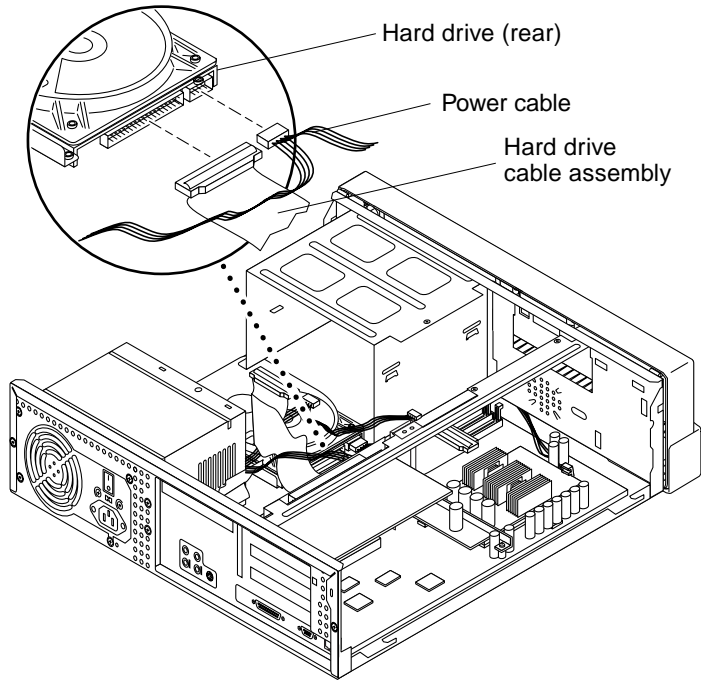
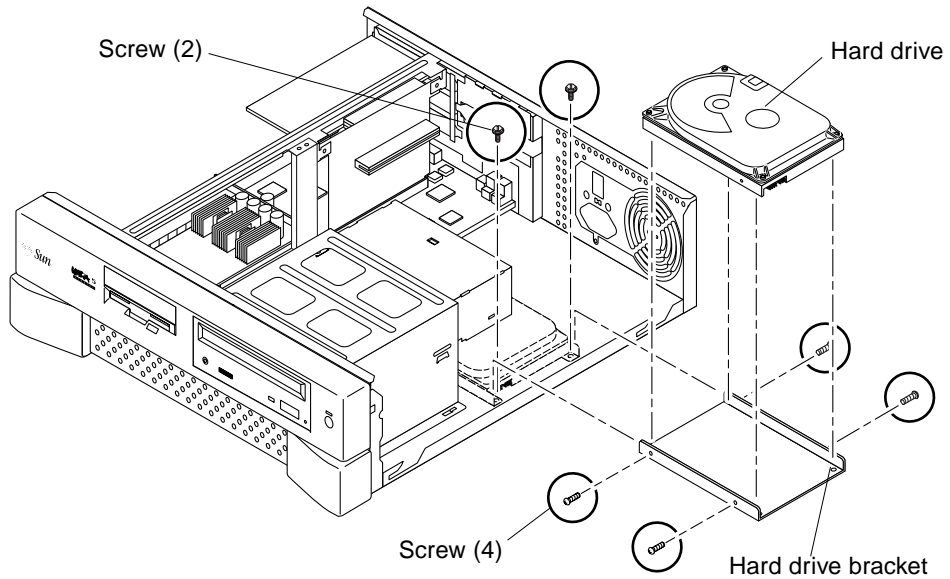

FIGURE 7-3 Removing and Replacing a Primary Hard Drive (Part 1)
FIGURE 7-4 Removing and Replacing a Primary Hard Drive (Part 2)
2. **Remove the primary hard drive as follows (FIGURE 7-3 and FIGURE 7-4):**
1. **Replace the primary hard drive as follows (FIGURE 7-3 and FIGURE 7-4):**